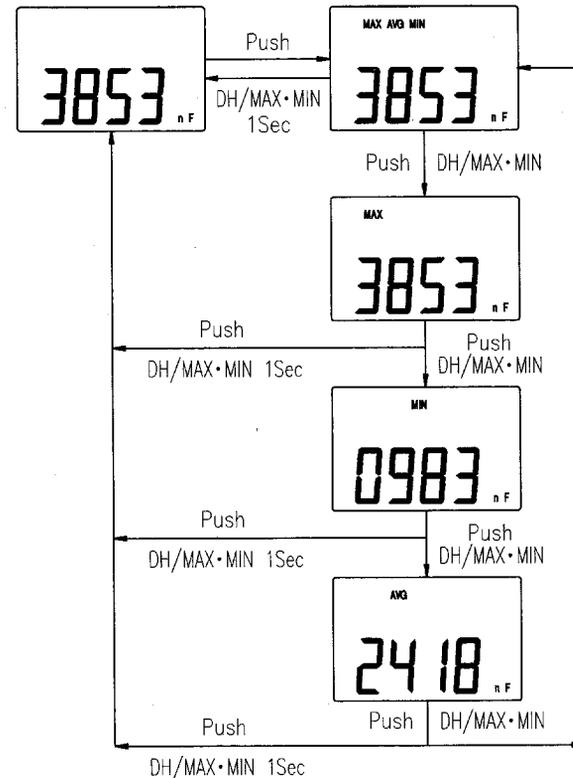

Figure 5. Display of Static Recording
- 3) Press this button momentarily to cycle through maximum, minimum, average and present readings. The **MAX**, **MIN**, **AVG** or **MAX AVG MIN** annunciator turns on respectively to indicate which value is being displayed. See **Figure 5**.